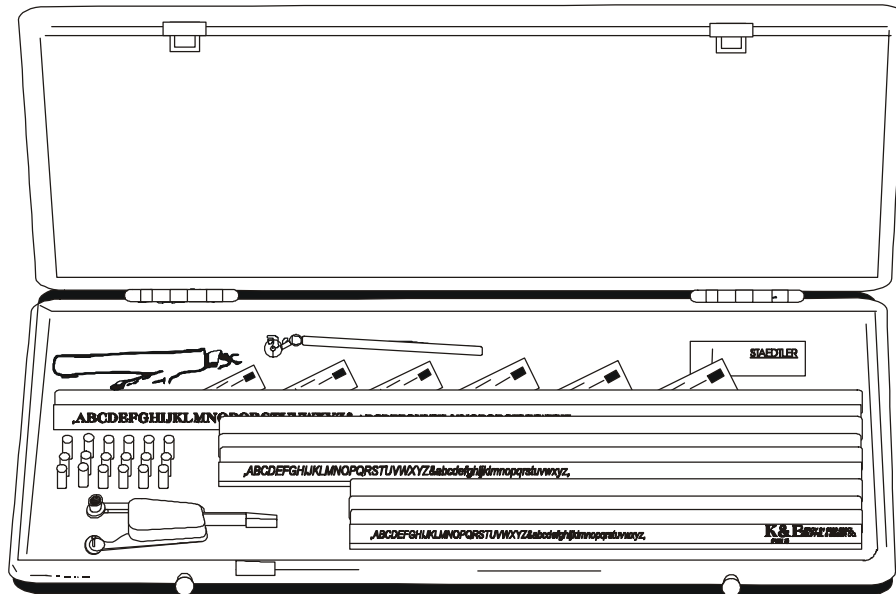

Figure D-8. Leroy lettering set.
(1) Leroy is a drafting equipment company trade name that makes a mechanical lettering set. Because the Leroy set is so popular, it has become the norm when referring to mechanical lettering sets (see Figure D-8). Wrico and Keufel and Esser are two other high-quality lettering sets on the market. These sets produce many neat, clean, uniform styles and sizes of lettering, which range from 1/8 to 2 inches. The sets are easy to master with minimum practice, but are time-consuming when compared to other mechanical methods. These sets consist of a scribe, pens, and templates with grooved letters; masking tape and a T-square are needed extra items. The checklist identified in Table D-2 is based on the Leroy mechanical lettering set, though any set can be used by following the manufacturer's manual.